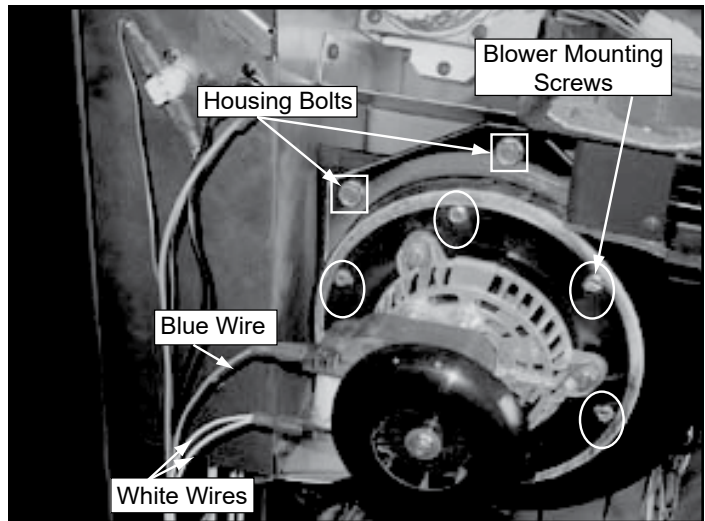

Figure 26.1
b. Remove existing blower (**Figure 26.1**):
- i. Use the 11/32" wrench or nut driver to loosen and remove the (6) nuts holding the motor mount plate to the blower housing on your appliance.
- ii. Use 11/32" wrench or nut driver to loosen and remove the (6) nuts holding the motor mount plate to the blower housing.